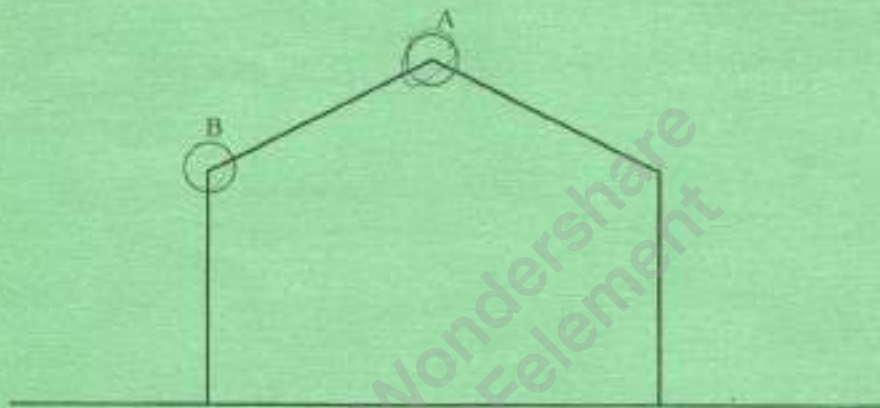

Fig. 1
- (b) **Figure 1** shows a line diagram of a steel framed building, 7.5 m x 45 m long.
- (ii) Sketch details 'A' and 'B' to illustrate the construction of the roof in figure 1 above. (8 marks)